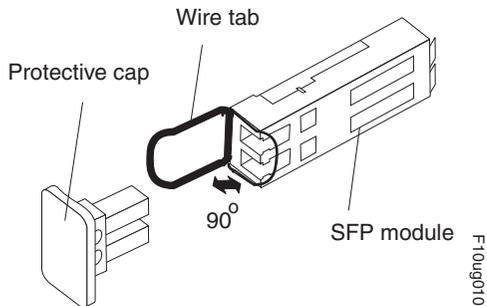

Figure 4. Unlocking the SFP module latch - wire variety
- For SFP modules that contain wire tabs, unlock the SFP module latch by pulling the wire latch outward 90°, as shown in Figure 4.